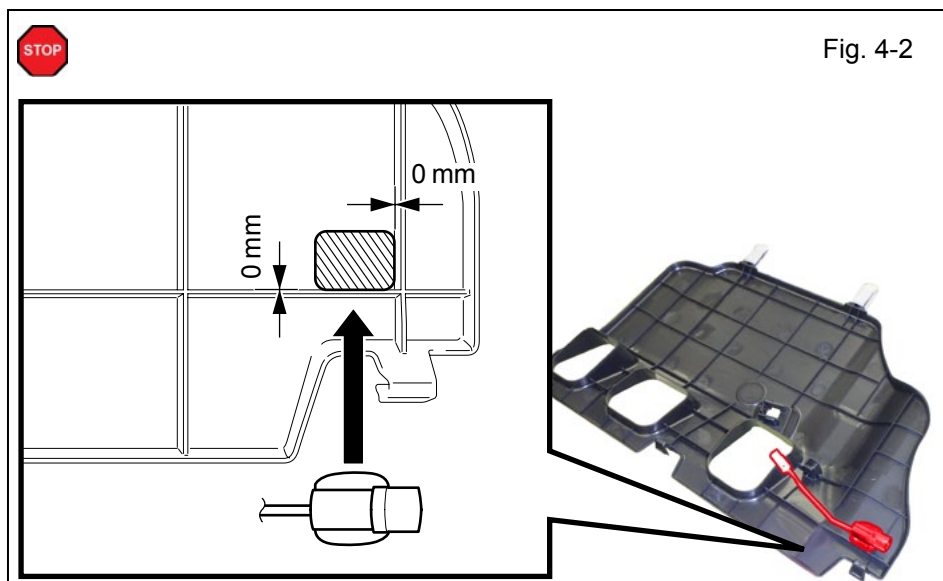

Fig. 4-2
- b. Using the VDC approved cleaner and Cleaning Method, clean the area indicated on the backside of the Glove Box Under Cover. (Fig. 4-2)
- c. Attach the GBS Microphone to the backside of the Glove Box Under Cover as shown. (Fig. 4-2)
**NOTE:** Make sure to align GBS Microphone to the Glove Box Under Cover. (Fig. 4-2)